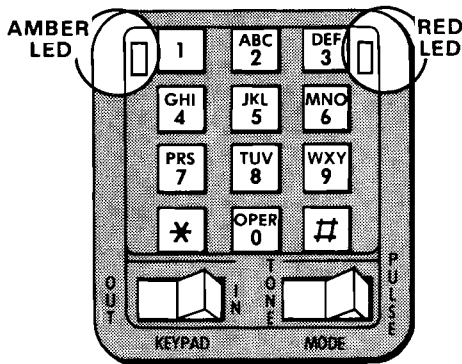

Figure 3
**5 POLARITY BUTTON.** Located on the inside of the handgrip, this small black button is used in conjunction with two rectangular LEDs located in the keypad bezel (see Figure 3) to check line polarity. Pressing the POLARITY button with the Test Set in "monitor mode" and connected to a telephone line or battery source, will cause one of the LEDs to light. The amber LED will